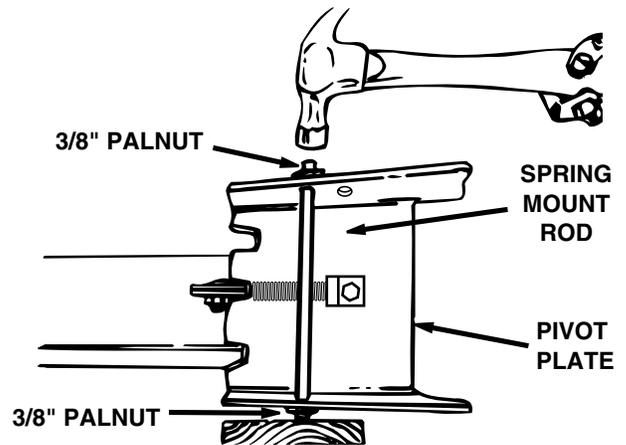

Figure 5
14. Using a hammer, assemble a 3/8" palnut onto one end of the spring mount rod. Insert the other end of the rod through the **rear set of holes** in the pivot plate. Turn the pivot plate onto it's side on a block of wood and hammer the remaining palnut onto the other end of the rod. See figure 5.